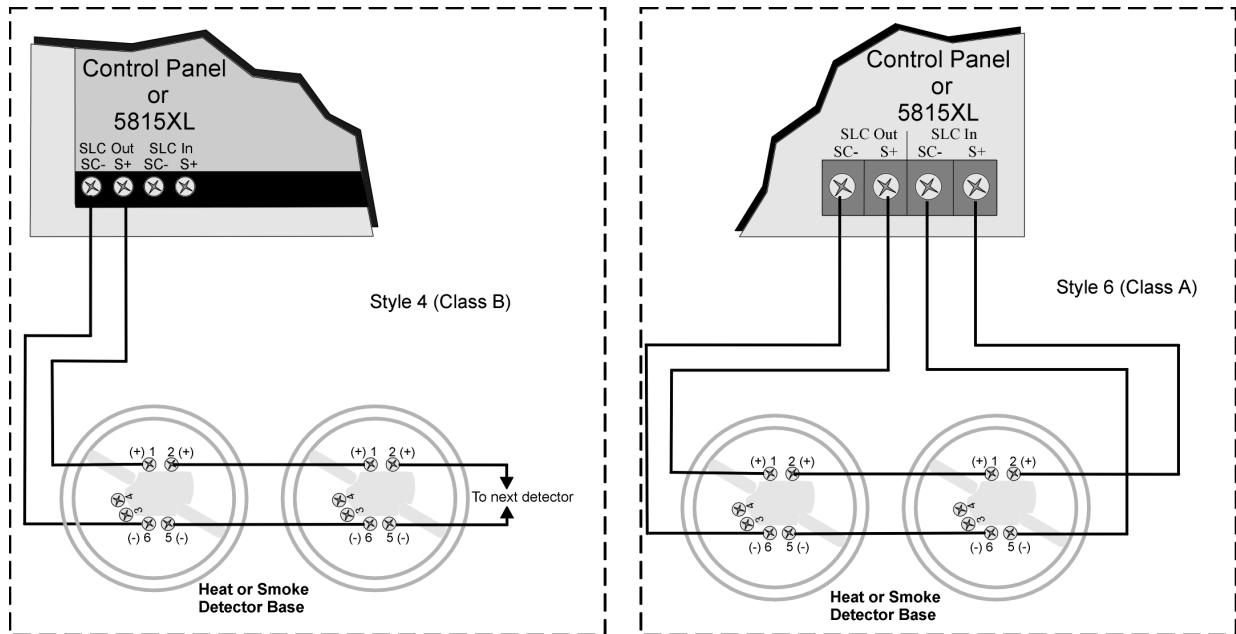

Figure 5-4 Heat or Smoke Detector Connection to the FACP (Class B)
1. Wire device bases as shown in Figure 5-4.